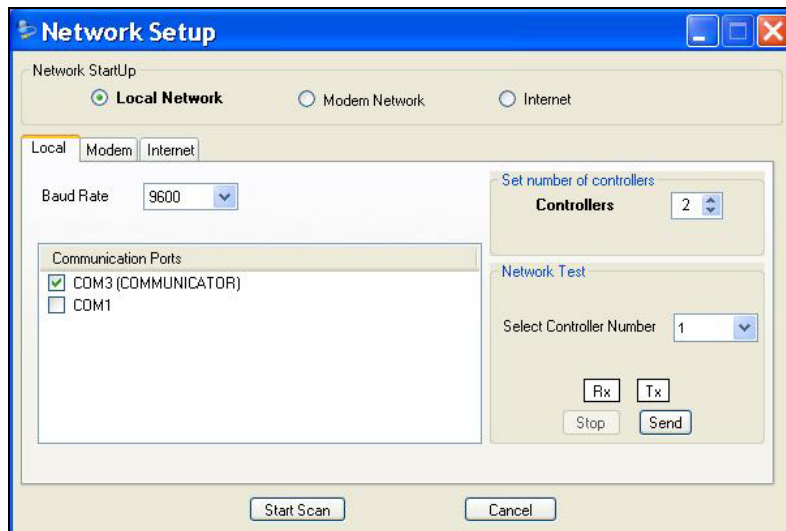

Figure 9: Local Network Setup Screen
The Local Network Setup screen appears (Figure 9).
4. Click **Start Scan**. This scans the entire network locating all connected houses (refer to Figure 9).